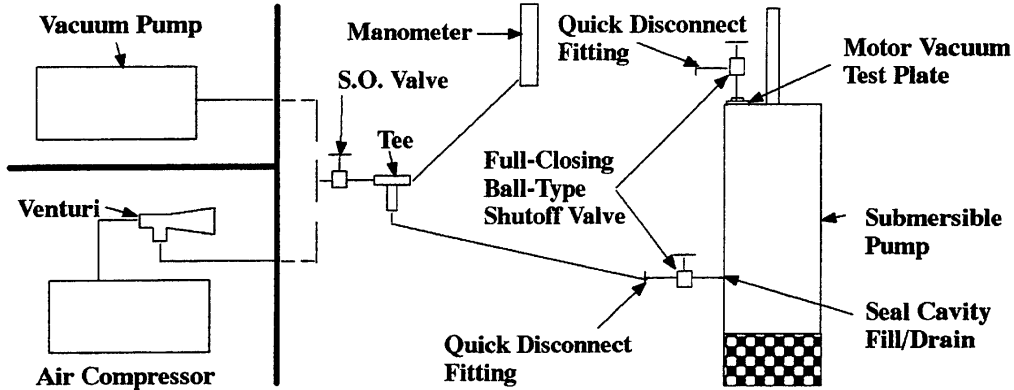

Figure C-7. Vacuum Test System
It is recommended that a vacuum pump be used to draw the vacuum on the cavities. If a vacuum pump is not available, a compressor/venturi system may be used, see Figure C-7.
See Figure C-7 and connect the vacuum pump or compressor/venturi system directly to the pump at the hole for the seal cavity drain plug (8).
Connect the vacuum pump or compressor/venturi system to the pump as shown in Figure C-7.
Figure C-7 shows a simple schematic for setting up either a vacuum pump or a venturi/compressor test system.